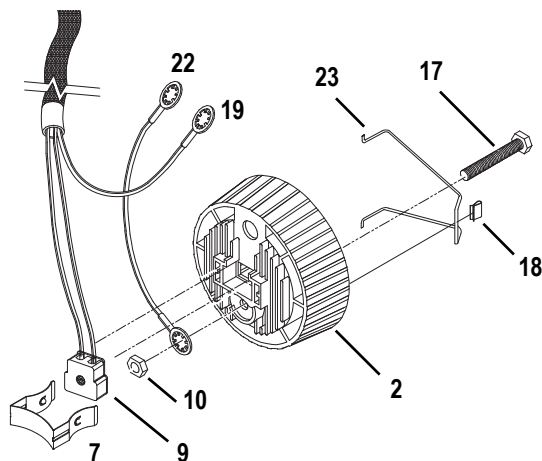

Figure 4
- Step 3: Insert the bolt (17) through the light baffle socket casting (2). See Figure 4.
- Step 4: Install the green ground wire assemblies (19 and 22) on the bolt (17) with the prongs on the crimped connectors toward the casting. Run both wires through the indent in the lip around the bolt hole. Secure with nut (10) and tighten securely (60 inch pounds).
- Step 5: Place the socket assembly (9) into the light baffle socket casting (2). Be sure it is well seated.
- Step 6: Install the lamp retainer spring (7). The lamp retainer spring secures the socket. Insert the spring one end at a time, making sure the rectangular slot in each side of the spring seats on the corresponding tab in the casting.